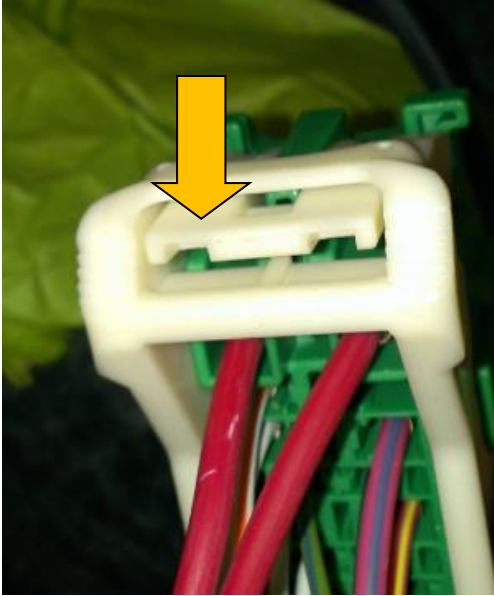

Figure 44 – Accessing PDC connectors
- Locate the green connector on the bottom of the fuse box, to remove this connector push on the release (Figure 44).